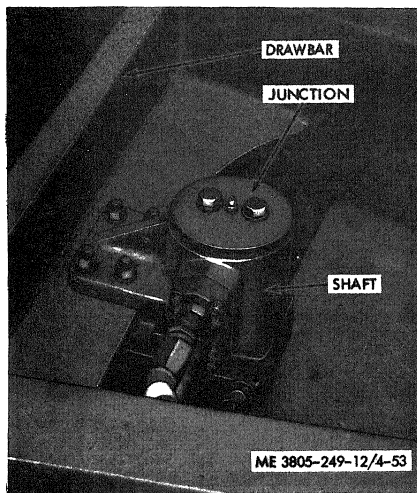

Figure 4-53. Hydraulic junction.
a. *Removal.* Refer to figure 4-53.
(1) Disconnect hydraulic inlet and outlet lines. Cap or plug openings.